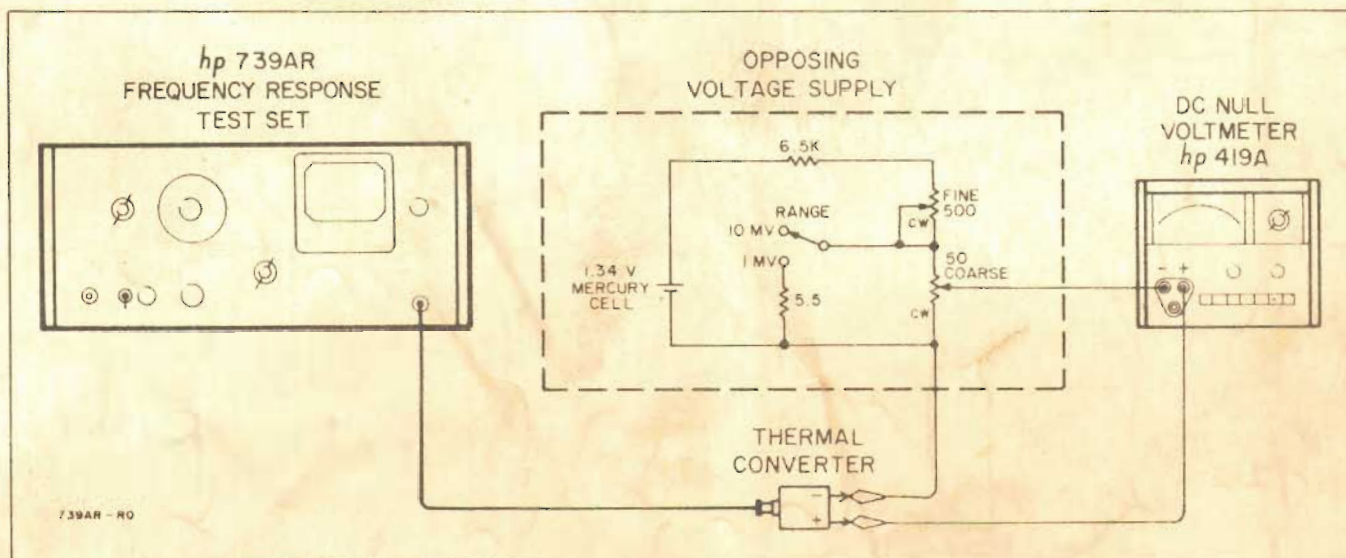

Figure 5-2. Frequency Response of the Monitoring Circuit
- g. Connect the opposing voltage supply to the 419A DC Null Voltmeter as shown in Figure 5-2. (Components are listed in Table 5-1 designated null system.)
- a. Use the test setup shown in Figure 5-2 and the procedure in Paragraph 5-11, steps a through f.